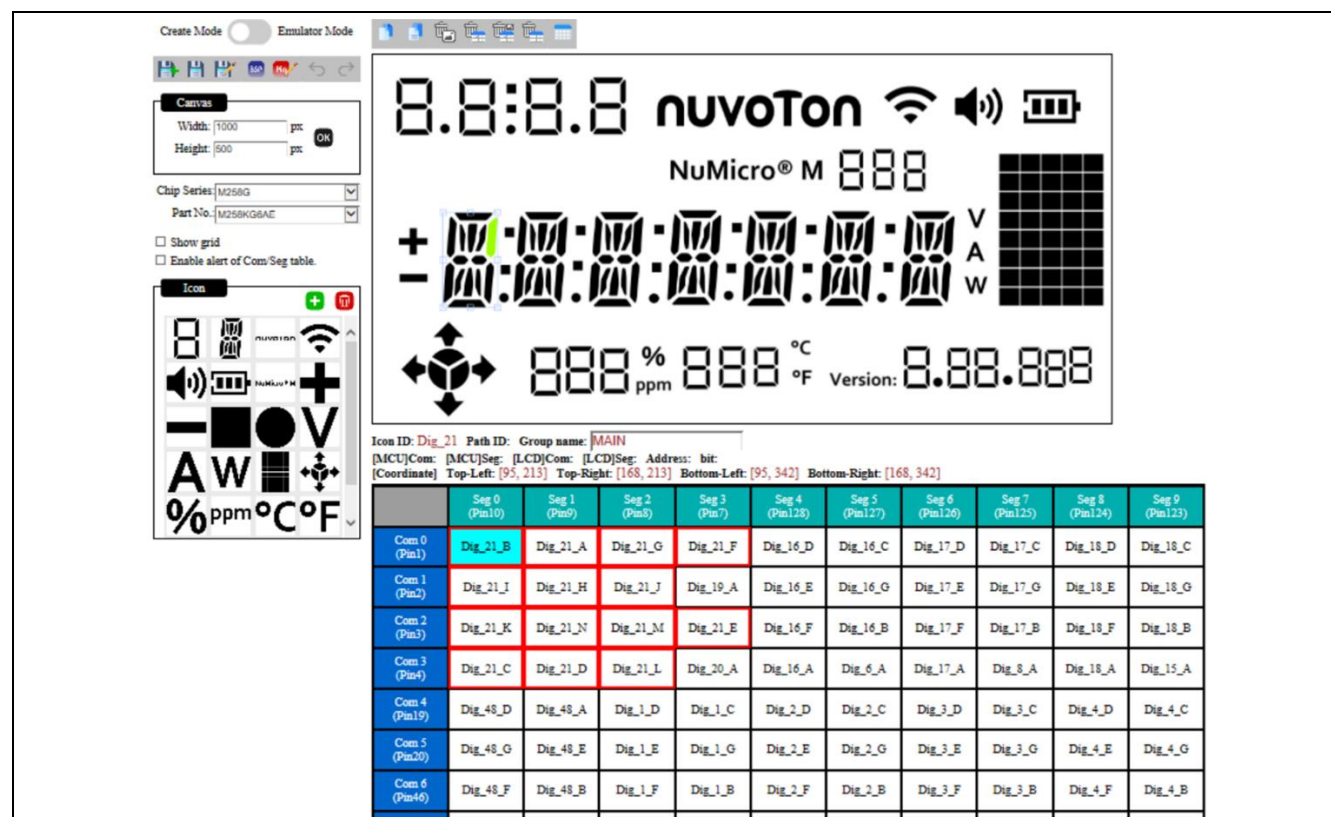

Figure 1-8 Assign Icons to Correct COM/SEG according to the LCD Specification
- Click the icon and its relative COM/SEG to complete all the settings. As for the 7-segment and 14-segment display, user can set each seg in succession, as shown in Figure 1-8.